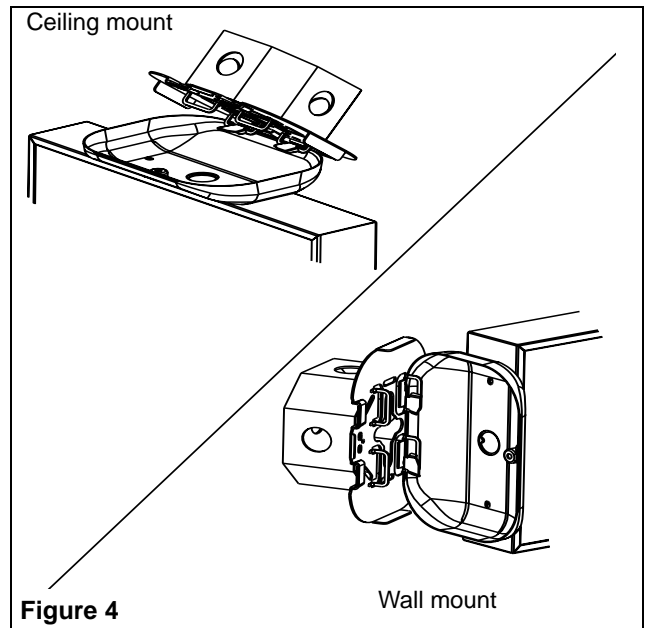

Figure 4
- f. Make the proper wire connections. The “Quick-install” canopy is equipped with ribs allowing you to hang the unit to the spider plate to facilitate wiring (See fig.4). Feed the excess wire into the junction box and secure the canopy to the junction box using the long screw provided(6).